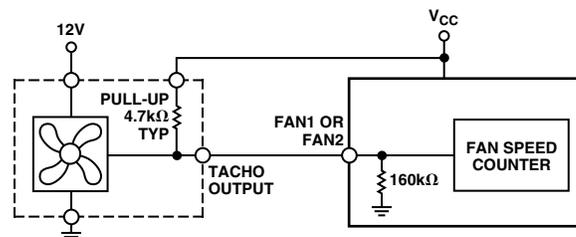

Figure 10a. Fan with Tach. Pull-Up to + V_{CC}
1. All of these circuits will provide an output range from zero to almost 12 V, apart from Figure 10a which loses the base-emitter voltage drop of Q1 due to the emitter-follower configuration.
Figures 10a to 10d show circuits for most common fan tach outputs.
If the fan tach output has a resistive pull-up to V_{CC} it can be directly connected to the fan input, as shown in Figure 10a.